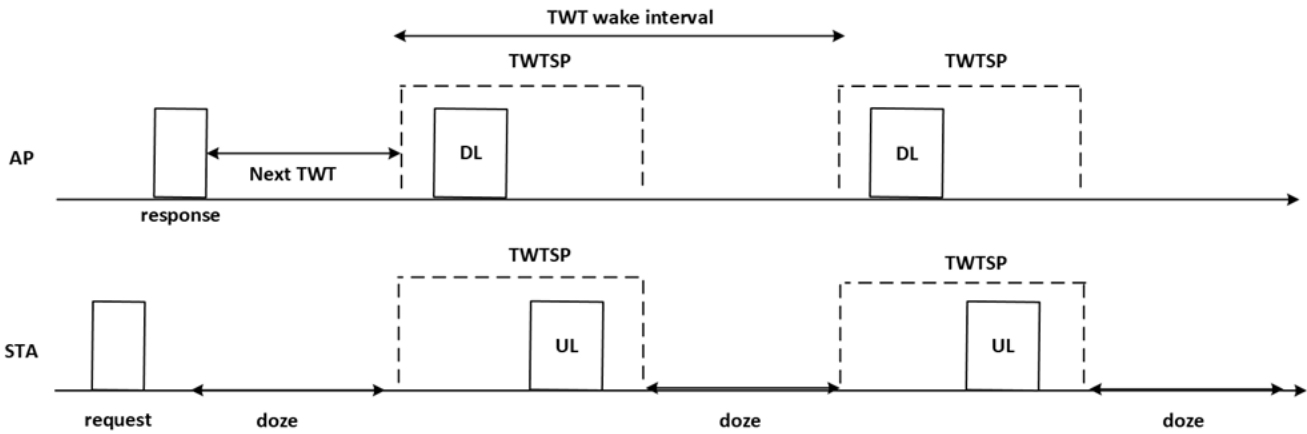

Figure 5. TWT basic flow
- TWT wake interval – the period between two consecutive TWT SP, see Figure 5